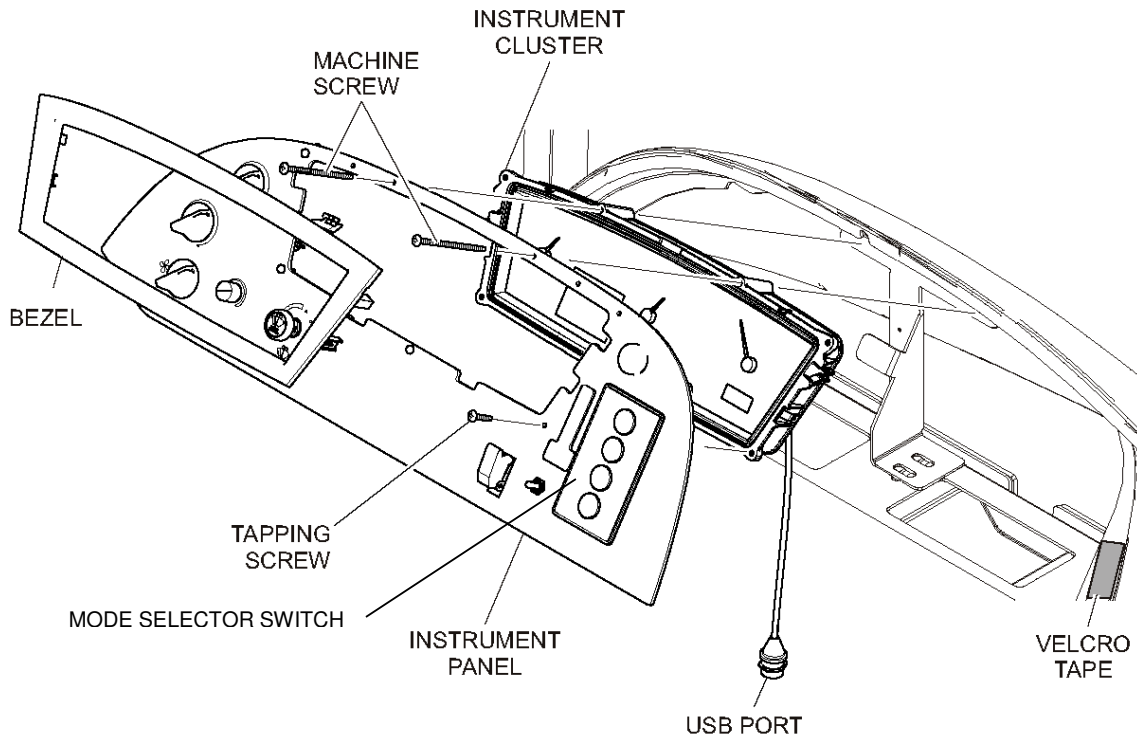

Figure 1: Instrument Panel Assembly.
3. Remove the instrument bezel by prying it away from the instrument panel. Figure 1.